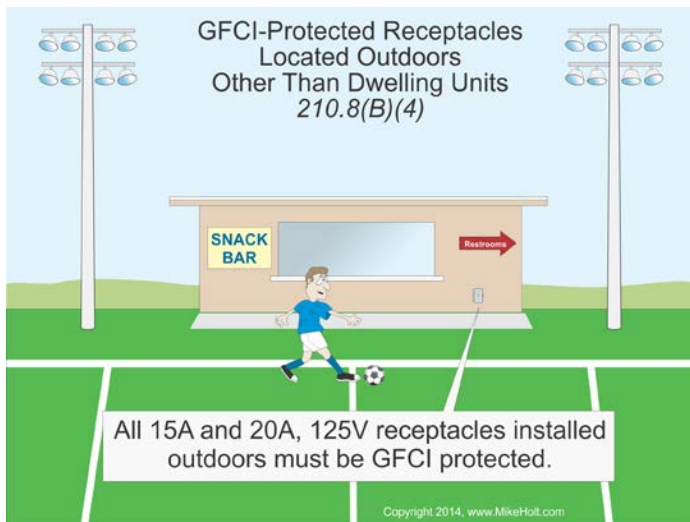

Figure 210-40
(4) Outdoors. All 15A and 20A, 125V receptacles installed outdoors must be GFCI protected. Figure 210-40